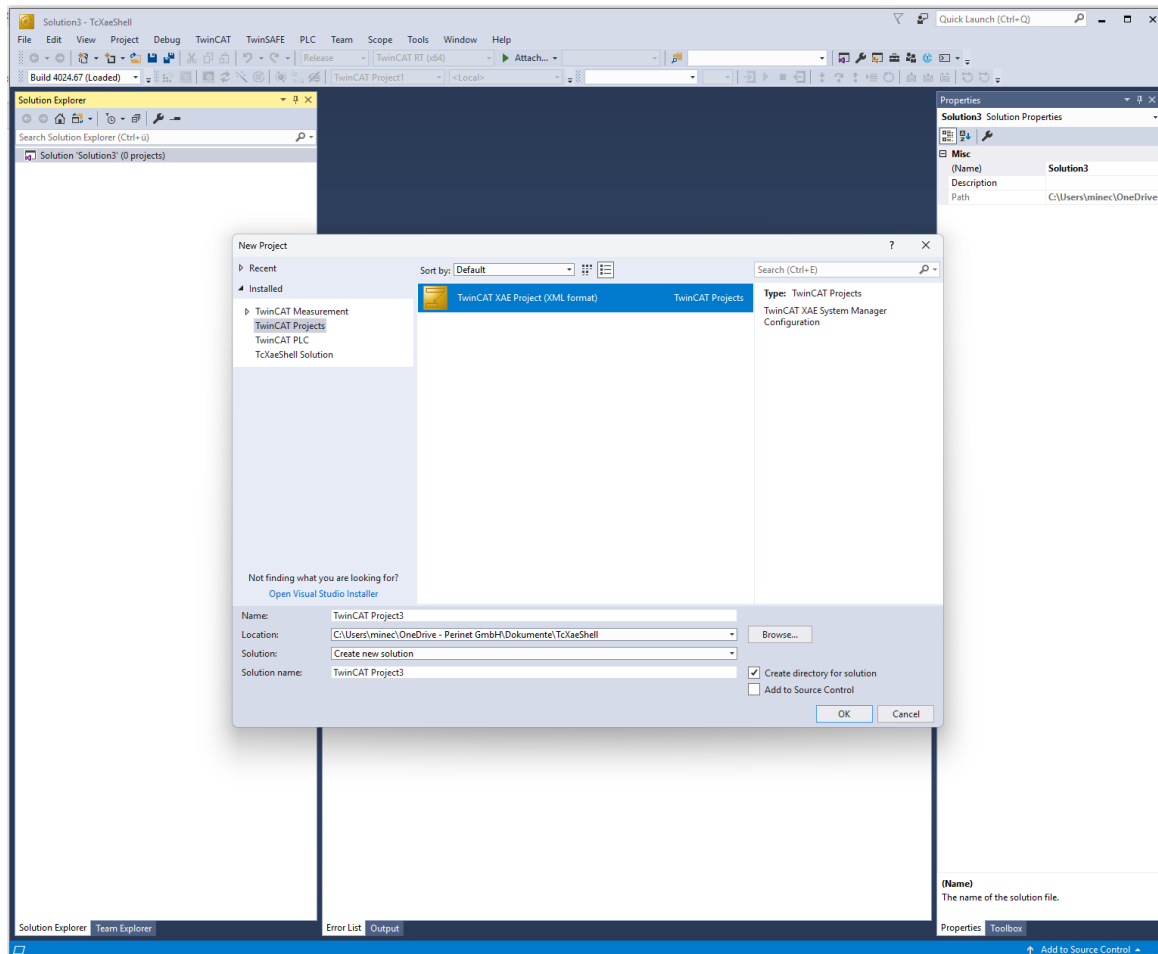
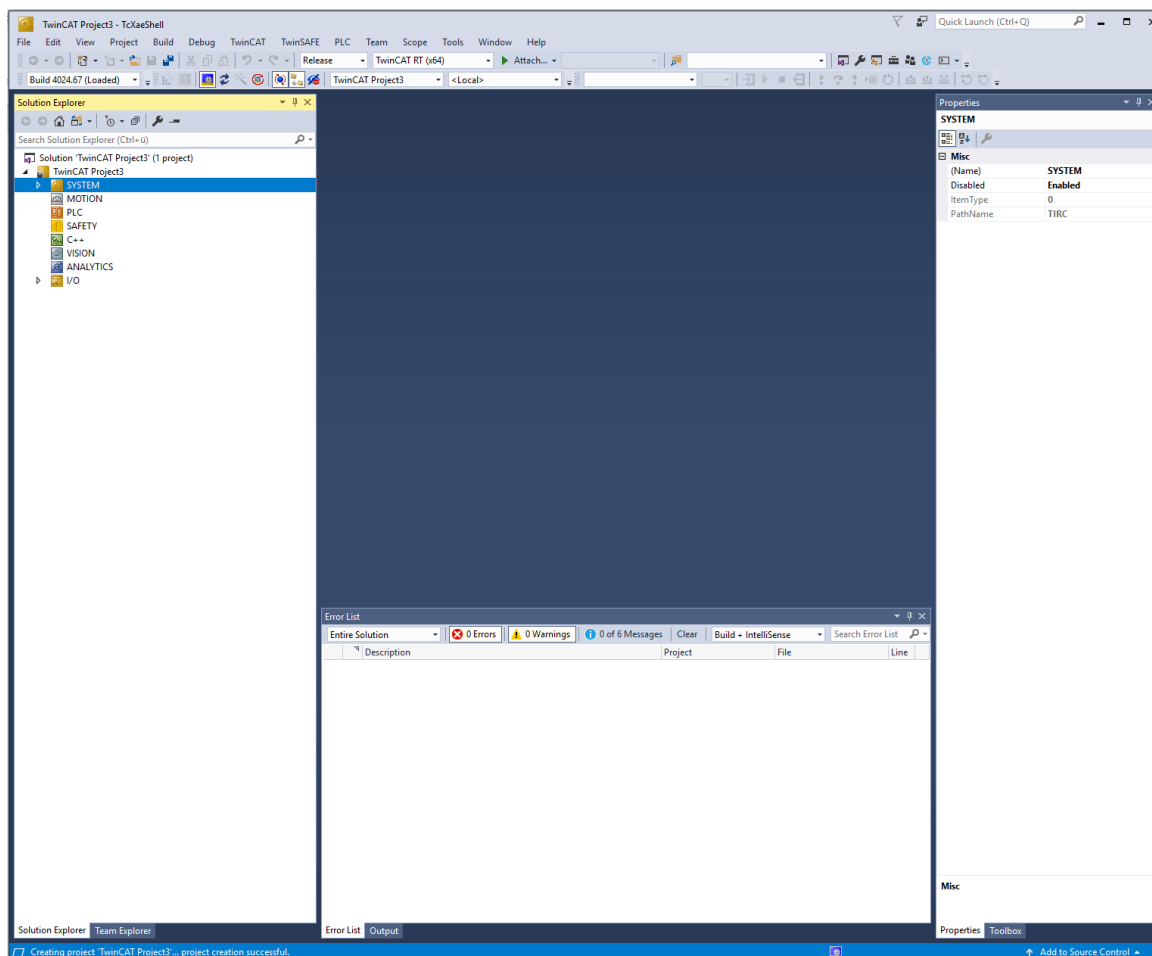

Figure 5: Create a TwinCAT project
Figure 6: PLC and I/O sections on the Solution Explorer
2. Then you need to add to this solution a new project from File -> Add -> New Project -> TwinCAT Projects to create a TWINCAT XAE Project as seen in Figure 5. On the solution explorer on the left side of the program, you can see the PLC and I/O dropdown menus that have already been created as seen in Figure 6